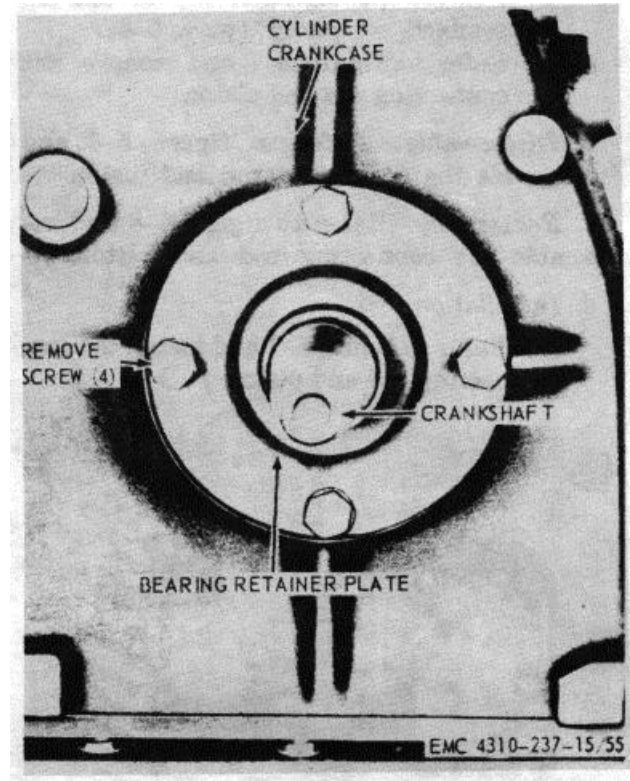

Figure 5-10. Bearing retainer plate, removal and installation
- (1) Remove the flywheel shroud (para 3-35).
- (2) Remove the starting rope sheave (para 3-47).
- (3) Remove the flywheel (para 3-48).
- (4) Refer to figure 5-10 and remove the bearing retainer plate.
- (1) Refer to figure 5-10 and install the bearing retainer plate.